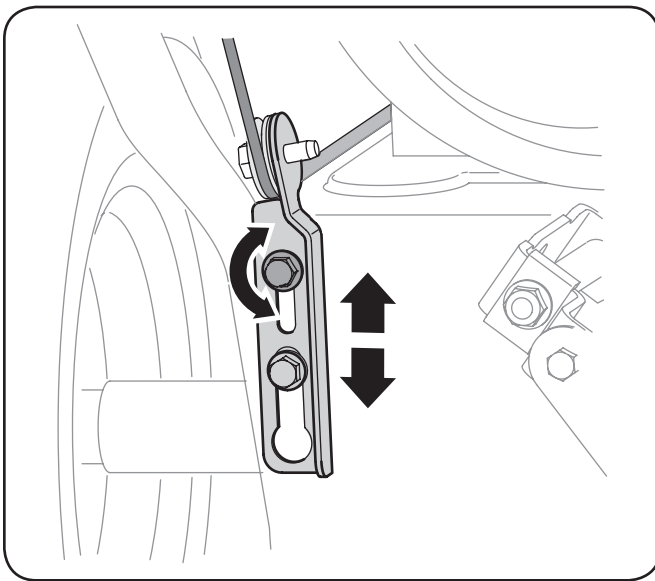

Figure 3-11
6. Allow the auger to remain engaged for approximately ten (10) seconds before releasing the auger control. Repeat this several times.
9. To readjust the control cable, loosen the upper hex nut on the auger cable bracket. See Fig. 3-11.